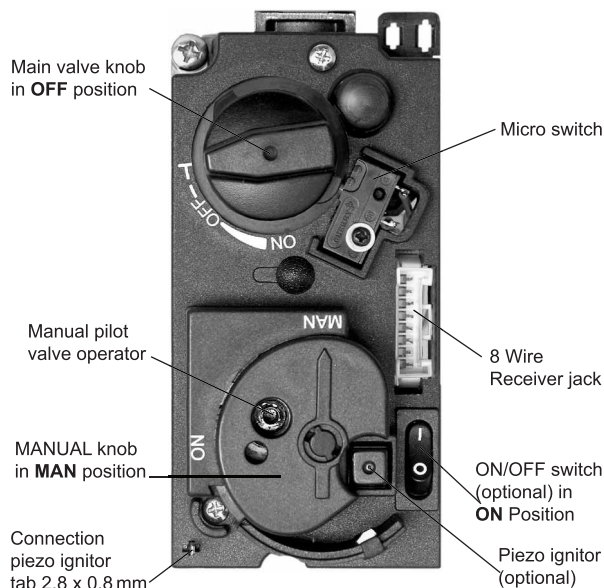

Figure 19
5. Wait five (5) minutes to clear out any gas. Verify that no gas is in the area around the appliance, including near the floor. If you detect gas stop! Follow "What to do if you smell gas" in the safety information on page 5. If no gas is present, proceed to step 6.
8. Fully push down manual pilot valve operator and hold in, to start pilot gas flow (See Figure 19, page 28).
Change the ignition cable from the receiver to the valve (See Figure 19, page 28). Push in the piezo ignitor to ignite. If pilot does not stay lit, wait five (5) minutes and repeat.